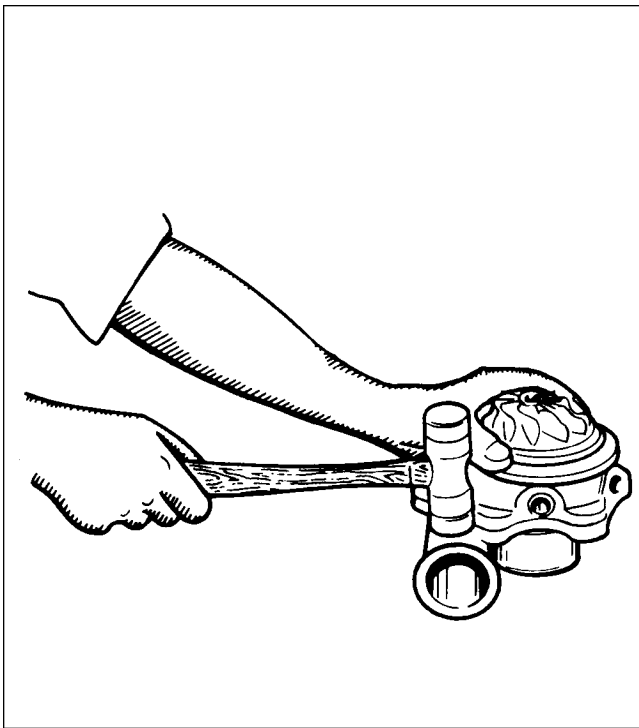

Figure 81-1. Removing Compressor Housing from Turbocharger
5. Remove the six bolts that secure the compressor housing to the turbocharger bearing housing; remove the compressor housing and gasket. If necessary, tap the compressor housing with a plastic hammer while holding the bearing housing as shown in figure 81-1.